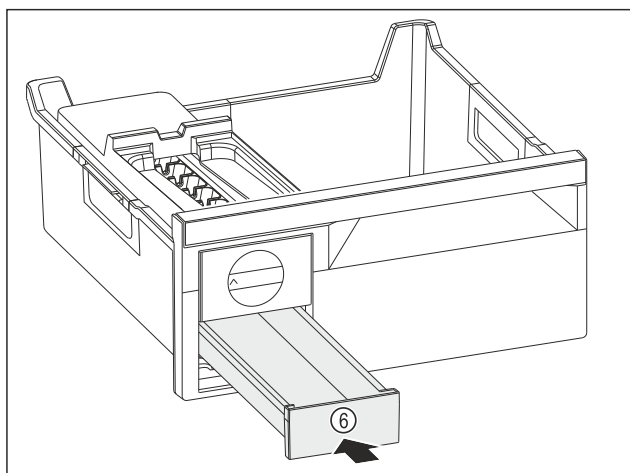

Fig. 88
- ▶ Insert the ice cube drawer Fig. 88 (6).